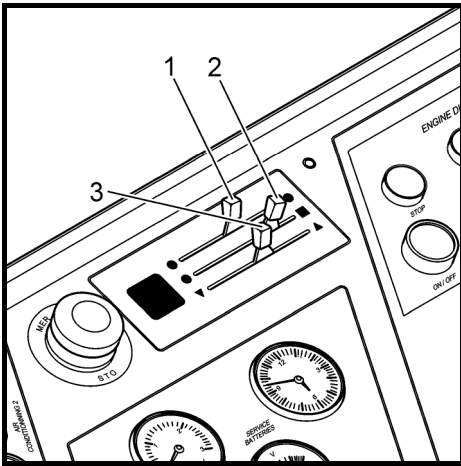

Fig. 33
Push the lever (Fig. 33, pos. 1) all the way forward to close off the water supply.
Move the lever 2 (Fig. 33,) to regulate the amount of fresh air / recirculated air coming into the cab.
The amount of water running through the heat exchanger can be regulated by moving the lever 1 (Fig. 33). If the regulator is pushed all the way to the rear, the maximum amount of coolant flows to the heater.
For air conditioner operation during the summer time, preferably close the coolant shut off valves on the Diesel engine, push the lever (Fig. 33, Pos. 1) all the way to the front and turn the heater blower off via button S12.